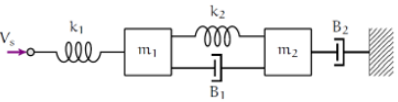

Fig. 1. Schematic model of a Mass-Spring-Damper System.
Figure axis labels are often a source of confusion. Use words rather than symbols. As an example, write the quantity “Magnetization,” or “Magnetization M ,” not just “ M .” Put units in parentheses. Do not label axes only with units. As in Fig. 1, for example, write “Magnetization (A/m)” or “Magnetization ($A \cdot m^{-1}$),” not just “A/m.” Do not label axes with a ratio of quantities and units. For example, write “Temperature (K),” not “Temperature/K.”